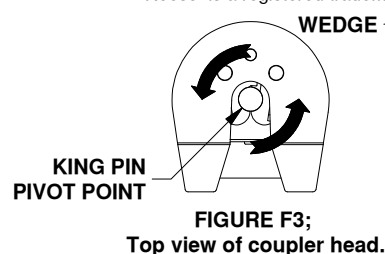
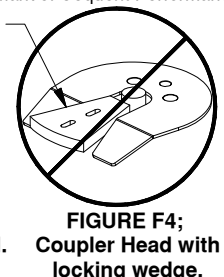

FIGURE F3;
FIGURE F4;
**WARNING:** Do not use the Companion 5th wheel hitch with any device that changes the location of the king pin pivot point. The king pin on your trailer must rotate in the jaws of the Companion Coupler, see figure F3. Preventing the king pin from rotating within the jaws of the Companion Coupler with a wedge, see figure F4, or any other device, such as a Reese Sidewinder® or Reese Revolution®, could result in property damage, serious injury or death.